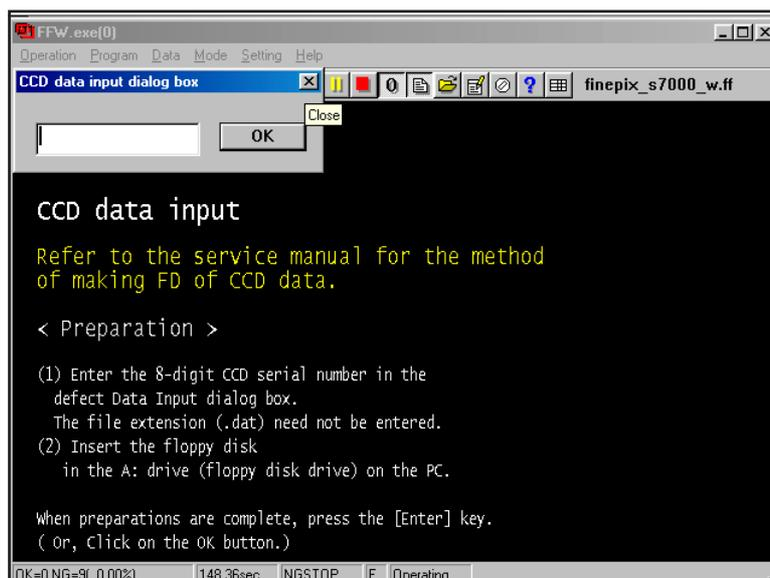

Fig.14
---> The [CCD Data Input Start Screen (Fig.14)] appears.
Make the following preparations in accordance with the instructions on the [CCD Data input Start Screen (Fig.14)].